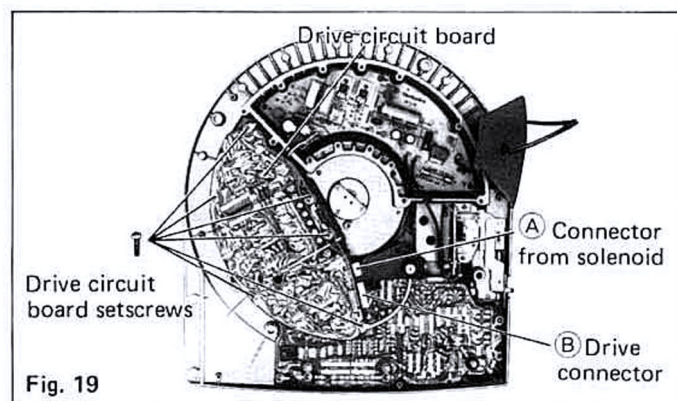

Fig. 19
**How to remove drive circuit board** (See Fig.19.)